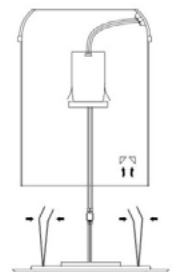

Fig. 6 (5"/6" Housing Installation)
8. Squeeze both torsion spring arms together and insert into the torsion spring slots (or receiver brackets) of the recessed housing. (Fig.6)
9. Tuck all wires into the recessed housing and carefully push the push the Opal tight to the ceiling. (Fig.6)